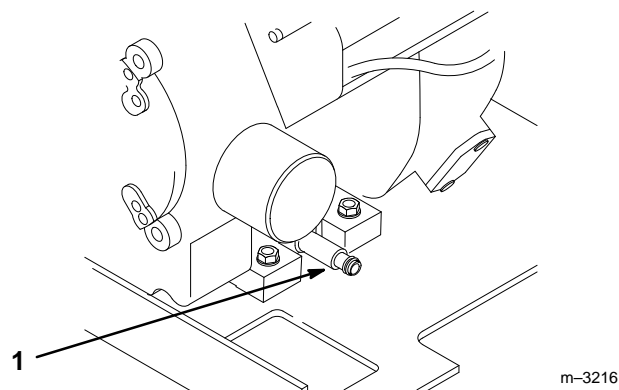

Figure 17
4. Place one end of a hose on the drain valve and the other end in a pan. Open the drain valve by turning it counter-clockwise, pulling out as you turn it (Fig. 17).